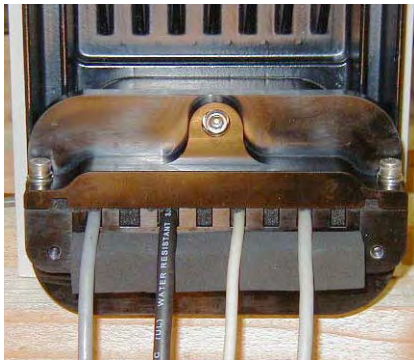

Figure 10-6. Upper Flange Installed
7. Attach the flange assembly using one M6x20 screw, one M6 lock washer, and one M6 flat washer. See Figure 10-6.